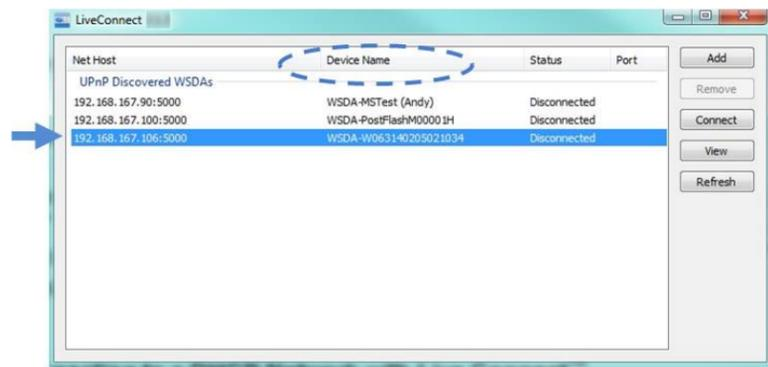

Figure 4 - Live Connect™ Interface
2. Open Live Connect™. The gateway will be detected automatically but, depending on the network, it may take two to three minutes. Once detected, the gateway will appear on the list of discovered devices and can be identified by its name or serial number (with a WSDA® prefix) in the Device Name column (*Figure 4 - Live Connect™ Interface*).